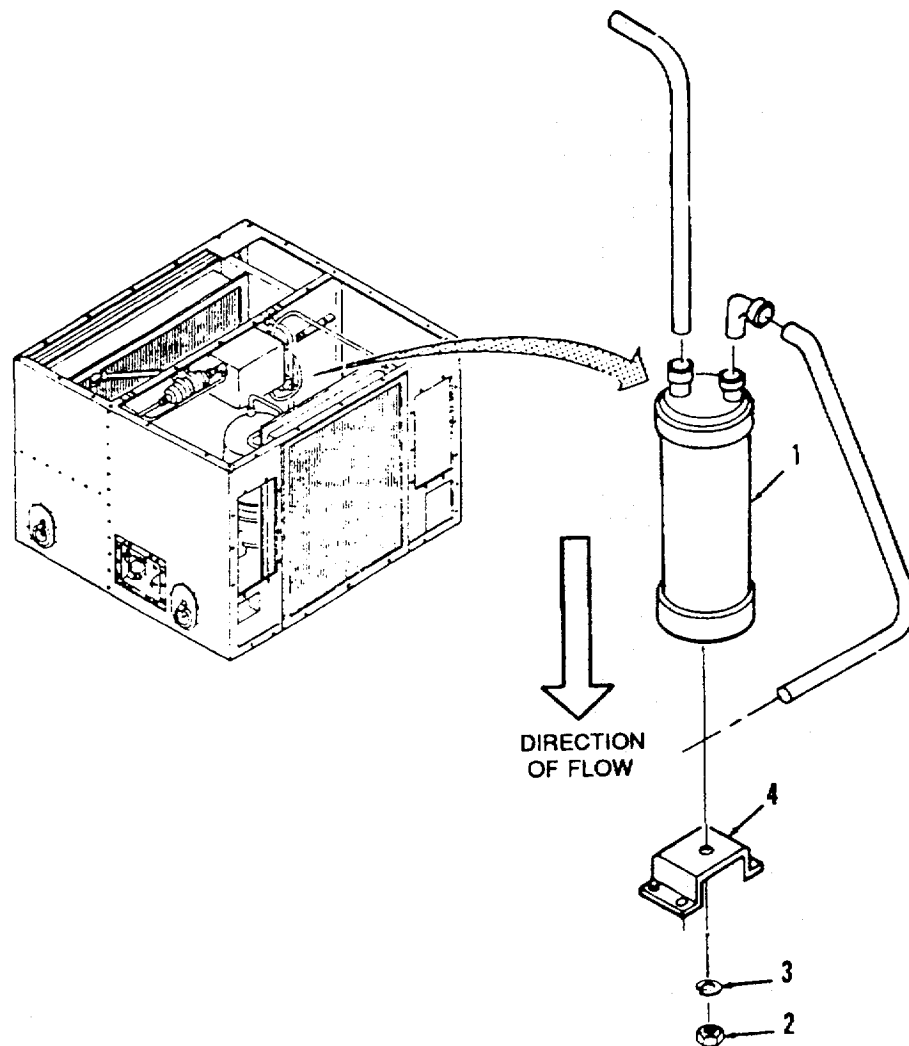

Figure 4-17. Accumulator.
**a. Removal.** (Refer to Figure 4-17).
- (1) Remove insulation and adjacent wrapping sufficient to debraze tube connections.
- (2) Debraze tubes connected to accumulator (1) (see para. 4-7).
- (3) Remove nut (2), flat washer (3), accumulator (1) from bracket (4).
**Observe direction of flow indicated on accumulator and install it to match Figure 4-17 flow direction,**
- (1) Place accumulator (1) on bracket (4).
- (2) Install nut (2) and flat washer (3) onto stud of accumulator (1).
- (3) Braze the tube connections (see para. 4-7).
- (4) Replace the dehydrator (see para. 4-18).
- (5) Install insulation on accumulator (1) and tubing.
- (6) Install condenser fan scroll (see para. 4-14).
- (7) Install condenser fan motor (see para. 3-34).
- (8) Install rear cover (see para. 3-27).
- (9) Service the refrigeration system (see para. 4-6).